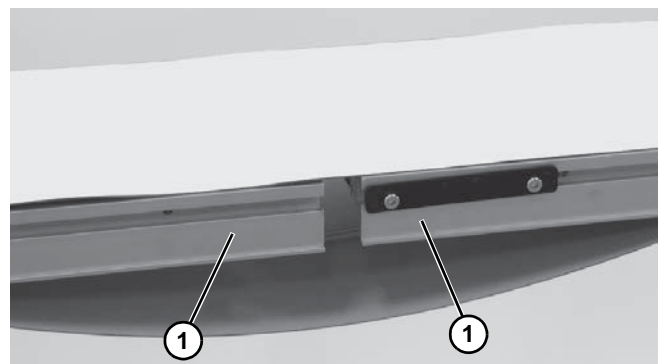

Figure 6
3. Roll out conveyor belt and place conveyor frame sections (**Figure 6, item 1**) into belt loop.